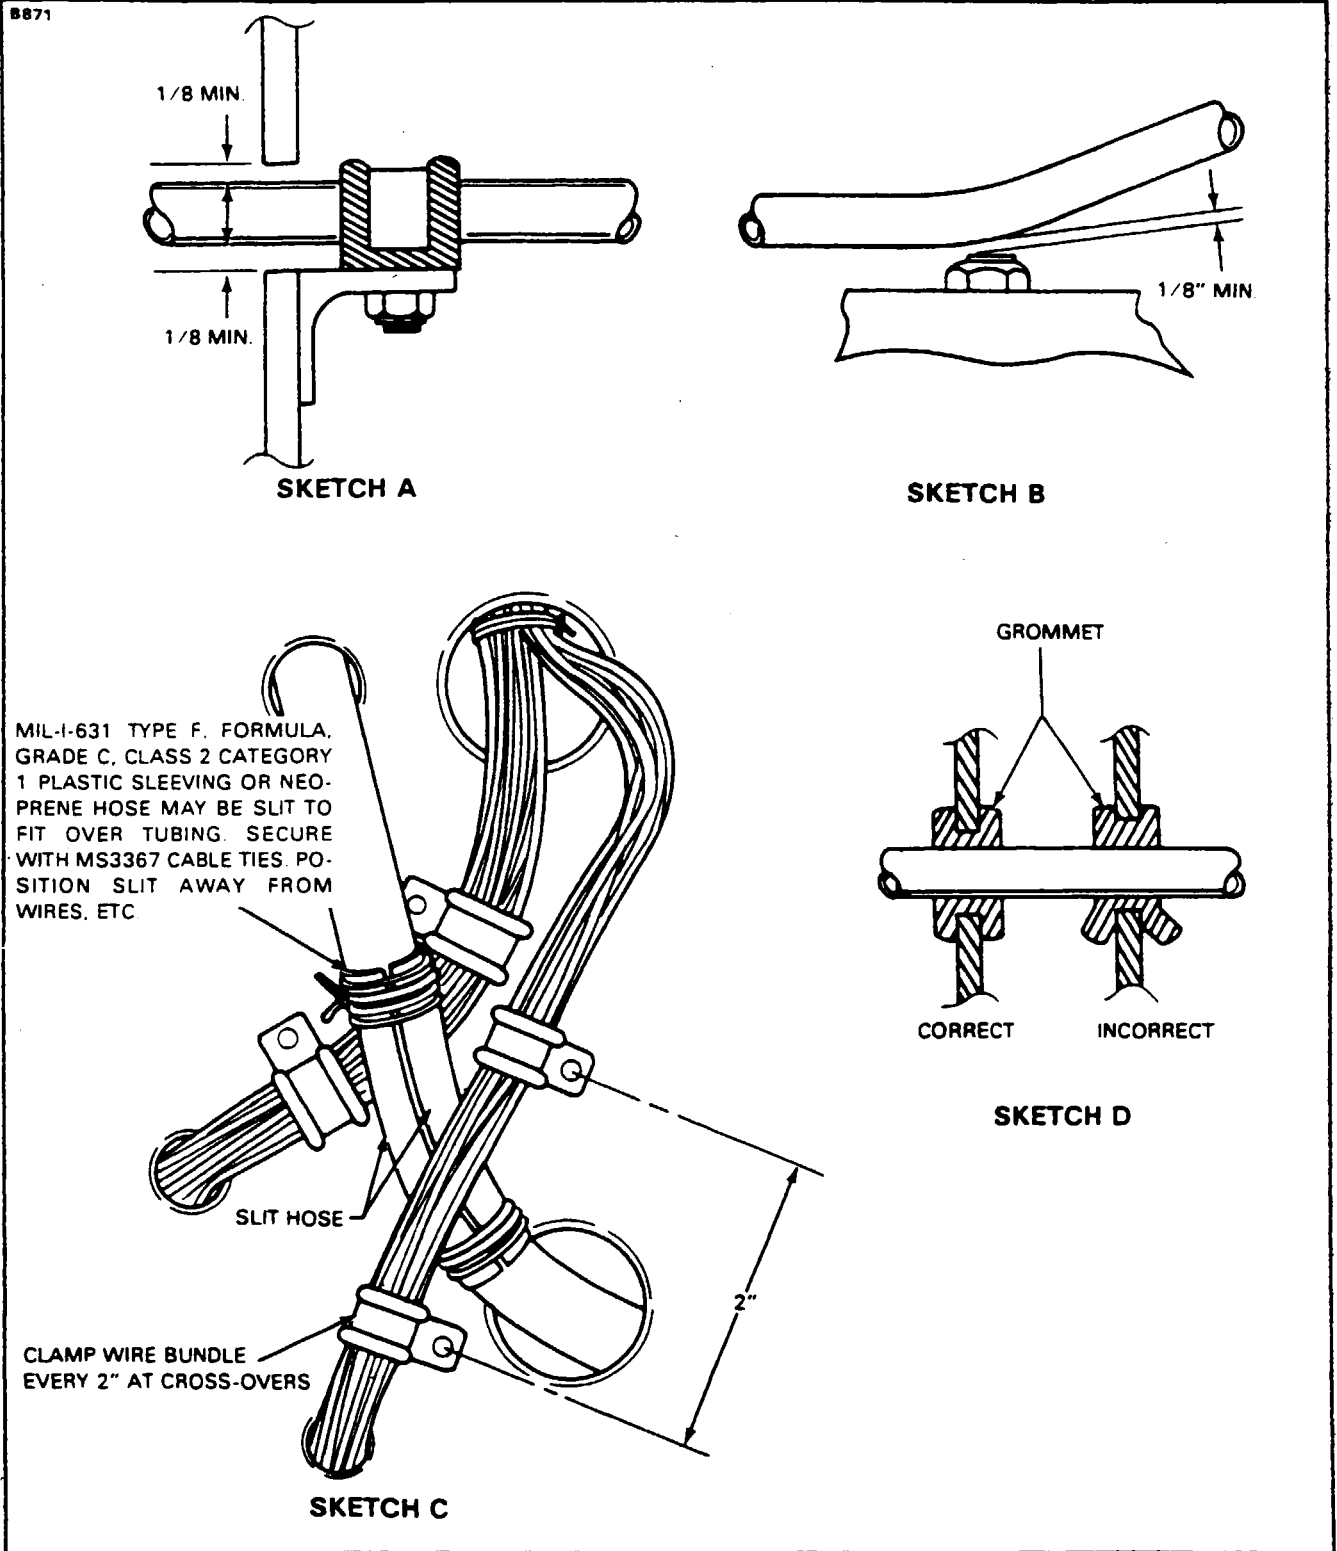

Figure 14-20a. Oxygen Tubing Installations
- a. Check that all lines have sufficient clearance between all adjacent structures and are secured in place. Also check the cylinder to be sure it is securely mounted (See Figure 14-20a).
14-88a. OXYGEN TUBING CLEARANCE (Refer to Figure 14-20a.) When installing oxygen tubing for the fixed oxygen system maintain the following clearances between the tubing and components.
- 1. Electrical cables, other tubing (etc.) will be supported at least every two inches so that they cannot chafe the protective tubing over the oxygen tubing. (Refer to sketch c of Fig. 14-20a.)
- 2. The oxygen tube will be protected by a rubber neoprene hose or plastic sleeving per Sketch C of Figure 14-20a.
- e. For open type clamps, the rubber pad of the clamp provides sufficient clearance, providing the center-line of the tube remains parallel to the clamp support bracket. (Refer to sketch a of Fig. 14-20a.)